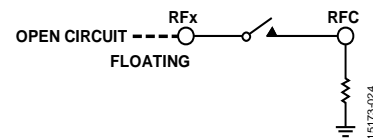
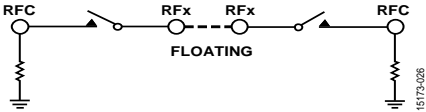
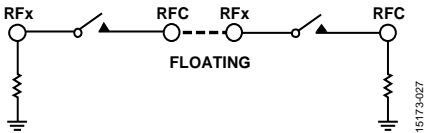

Figure 55. RFX Pins Left Open Circuit
Figure 57. RFx Pins of Two MEMS Switches Directly Connected
Figure 58. RFC Connected to RFx
The ADGM1004 has no internal impedance to ground, and charges can develop on the switch terminals leading to unreliable switch behavior. To mitigate this behavior, provide a discharge path to all switch nodes. Figure 55 to Figure 58 show examples of cases to avoid where floating nodes can occur when using the switch. Conditions to avoid include the following:
- Leaving the RFX pins open circuit (see Figure 55).
- Connecting the RFX pin of two switches together directly or connecting the RFC pin to the RFX pin (see Figure 57 and Figure 58).